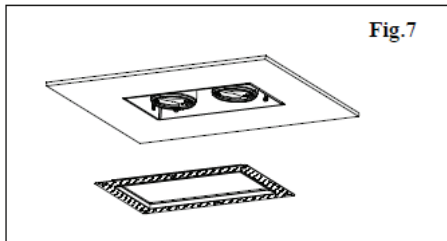
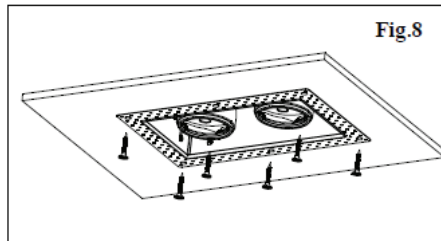

Fig.7
Fig.8
- Raise screen panel to ceiling opening and secure with screws supplied (as Fig.7 and Fig.8).